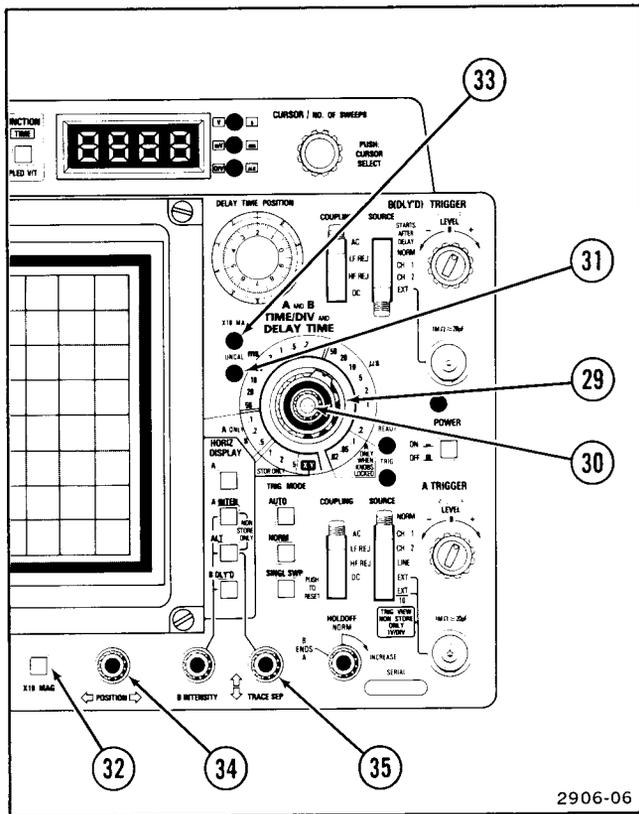

Figure 6. Sweep rate and position controls and indicators.
Refer to Figure 6 for location of items 29 through 35.